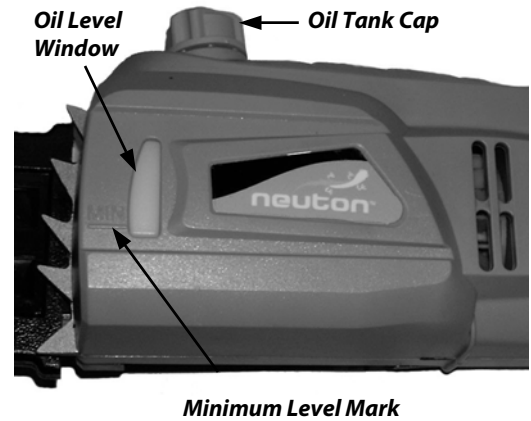

Figure 5
- Before starting the Saw, remove the Oil Tank Cap (**Figure 5**) and add #32 Bar & Chain Oil to the top of the Oil Level Window (**Figure 5**). One (1) minute of use will consume approximately 0.15 fl. oz. (5ml) of oil. Refill when the oil level drops to 1/4 of a tank.